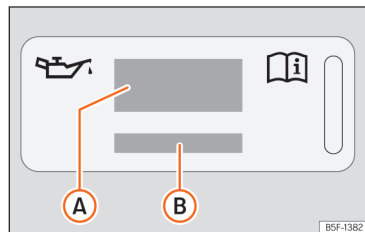
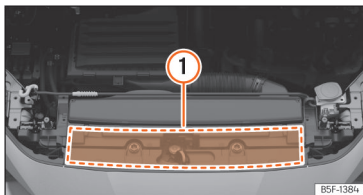

Fig. 226 In the engine compartment: engine oil label
Fig. 227 In the engine compartment: area where the engine oil label is located
Key to the >>> **Fig. 226:**
If the engine oil has to be topped up, use one of the oils shown on the label >>> **Fig. 226**. The label with the prescribed standard is located at the front of the engine compartment >>> **Fig. 227**
- If the label showing the engine oil specifications is missing >>> Fig. 226, please contact a specialist workshop.